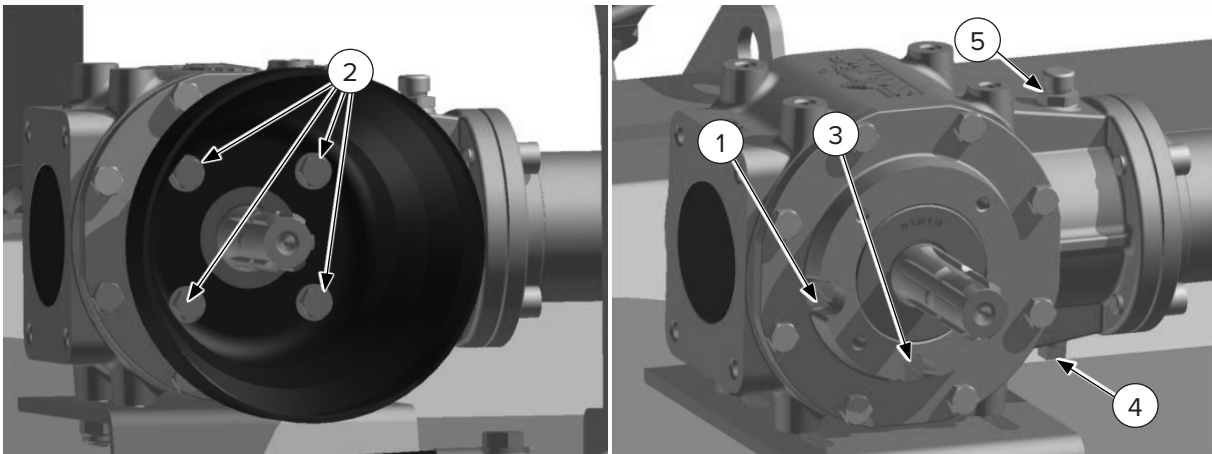

Figure 10
1. Remove the four (4) bolts [Figure 10, Item 2] holding the safety cover onto the gearbox, which prevents access to the plug.